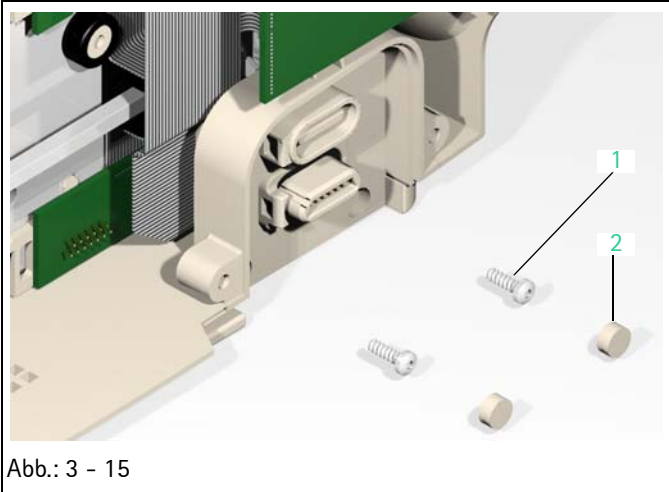

Abb.: 3 - 15
8. Press 8 seals M-2K (Abb.: 3 - 14 / Item 2) carefully out of the housing, press the rotary knobs in the locking position and pull the seals M-2K off the rotary knobs.
Legende zu Abb. 3 - 15: